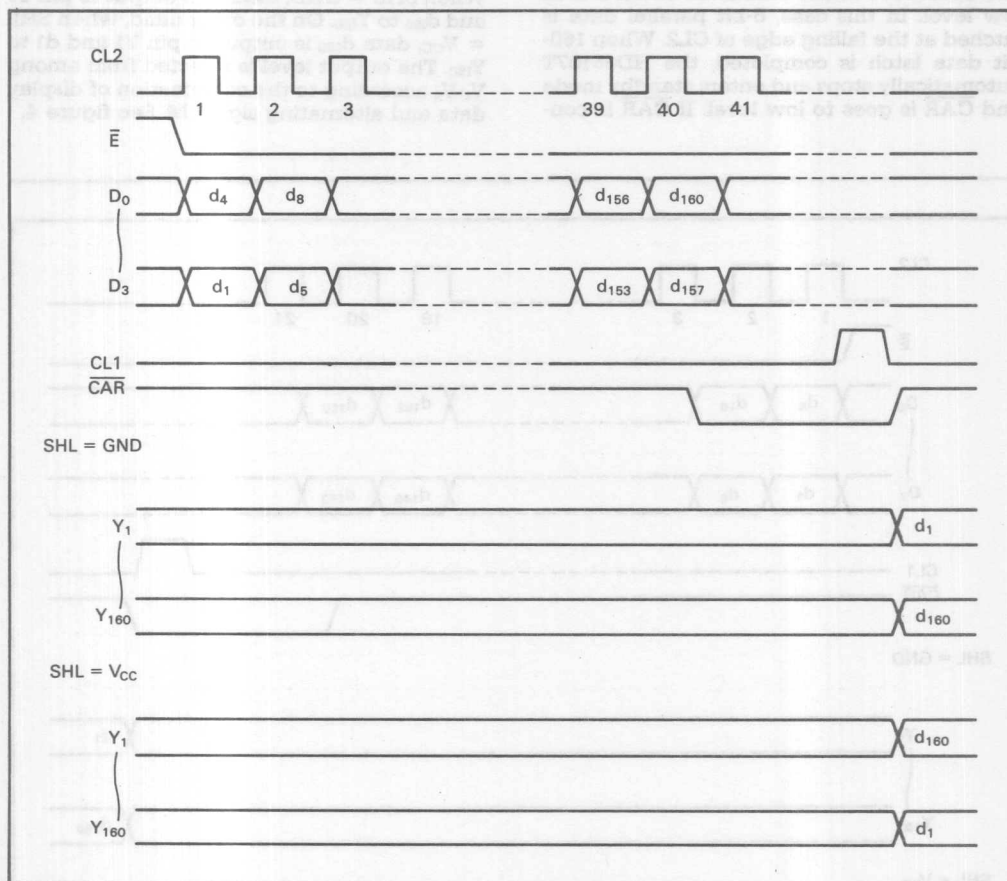

Figure 5 Column Driver Timing Chart (2)
4-bit display data ( $D_0$ - $D_3$ ) is latched at the falling edge of CL2. Other operations are performed in the same way as described in "Column Driving (1)". See figure 5.